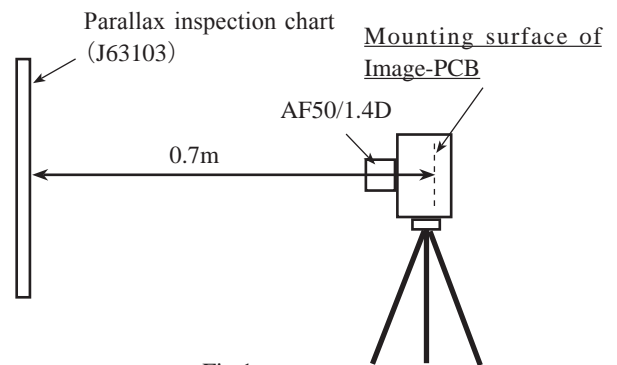

Fig.1
- ④ Attach the parallax/SI chart (J63103) on the wall, etc.
- ⑤ Put the CF card and battery into the camera, and mount the lens AF 50/1.4.
- ⑥ Position the camera correctly 70 cm-distance from the parallax-inspection chart by using the tripod, etc. (ref. Fig. 1.) (Set the optical axis of lens to come in the center of the chart.)